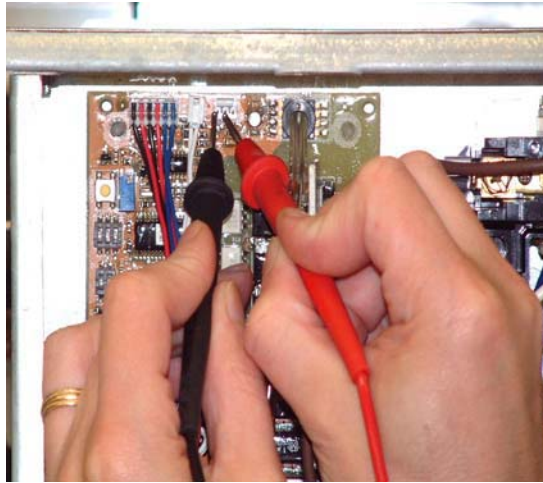
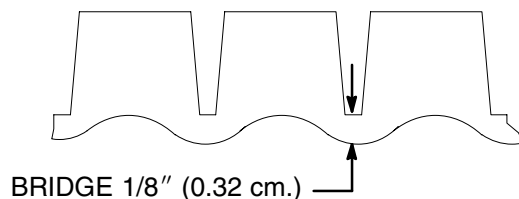

FIGURE 8
FIGURE 9
4. During normal operation, as the water pan fills the D.C. voltage will range from .25 to 3.5 VDC at center and left pins, on the J9 connector (See Figure 8).
For optimum ice production and maximum cube separation, the ice connecting the individual cubes should be a minimum of 1/8" (.32cm.) thick (See Figure 9). When adjusting the ice thickness, the adjust Led is on the control board, it will be on for four seconds when it is at nominal voltage 2.4 to 2.5 VDC \pm 2% (See Figure 8 for location of the J9 connector).